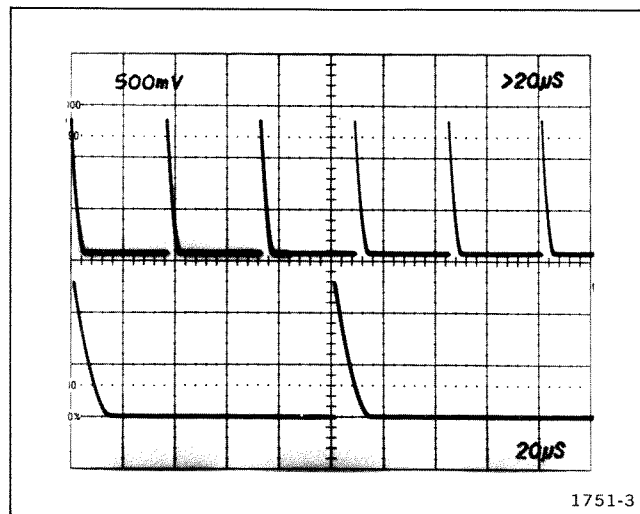

Figure 4-3. VARIABLE Time/Division range.
- h. CHECK—Distance between Delaying sweep markers must not exceed 2 major divisions. (See Figure 4-3.)